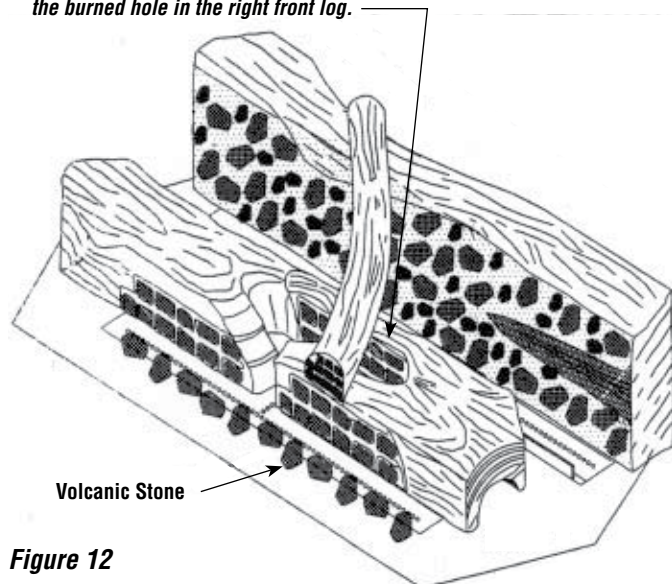

Figure 12
- Place the volcanic stone one high in front of the front burner tube (see **Figure 12**). Take care not to cover all the burner ports. Any extra volcanic stone may be placed at the ends of the front logs, off the burner. Place small pinches of rockwool (embers) on top of the volcanic stone.